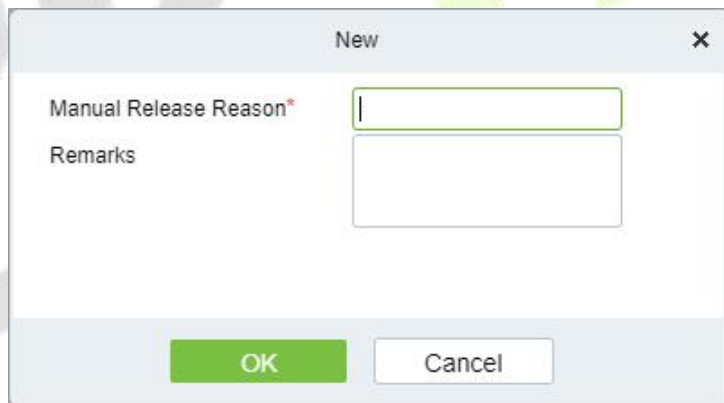

Figure 9-16 New Manual Release Reason Interface
Step 2: In the **Manual Release Reason** interface, click **Add New** to fill in relevant parameters, as shown in Figure 9-16. Please refer to Table 9-17 for parameter description.